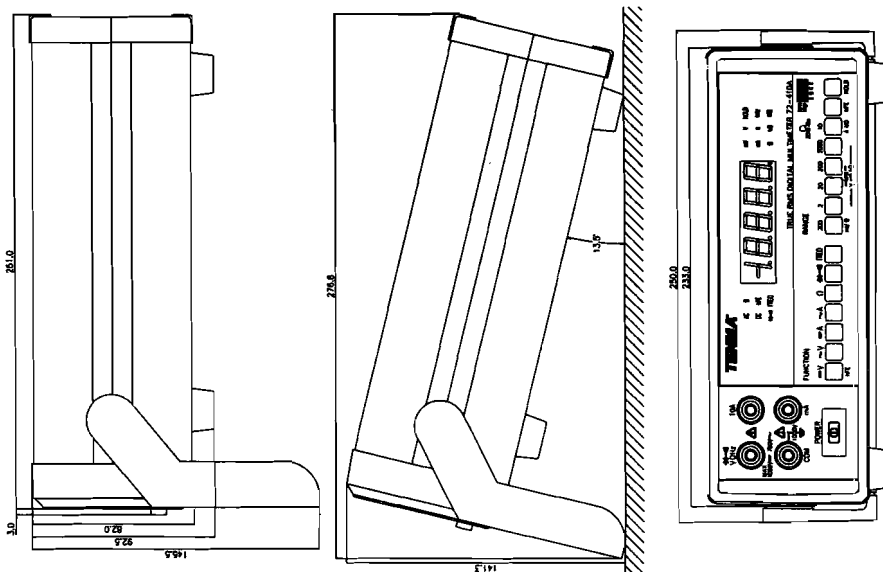

FIG 3-1. DIMENSIONS
- ⊙ Dimensions : 25.0cm 9.25cm 25.1cm (See FIG 3-1.)